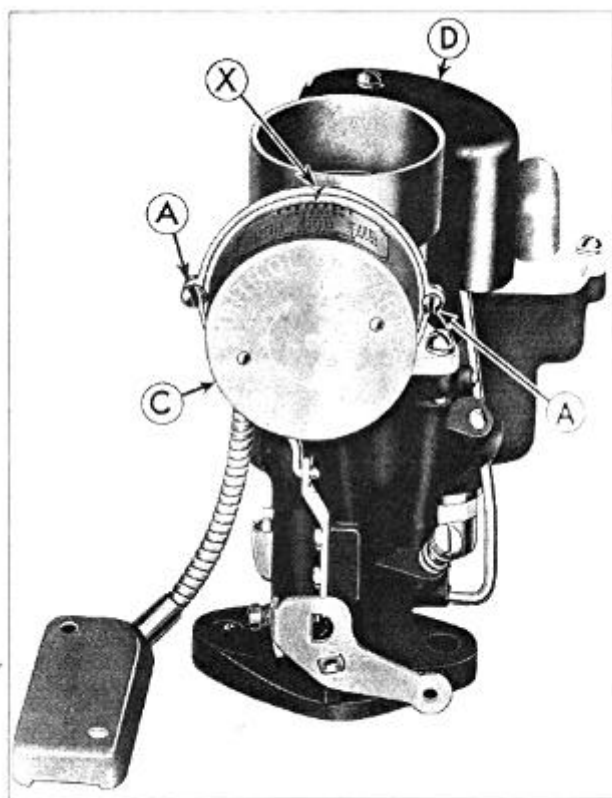

Figure 406
(24) Remove dust cover. (D, Figures 406 and 408.)